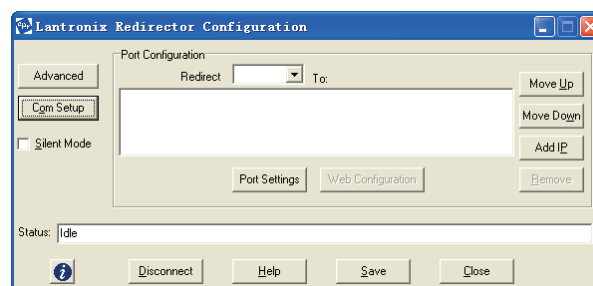

Figure 7: User interface of Lantronix Redirector Configuration
(1). Click “**START**” → “**PROGRAM**” → “**lantronix**” → “**Redirector**” → “**Configuration**” and enter the user interface of Lantronix Redirector Configuration, shown as figure 7: